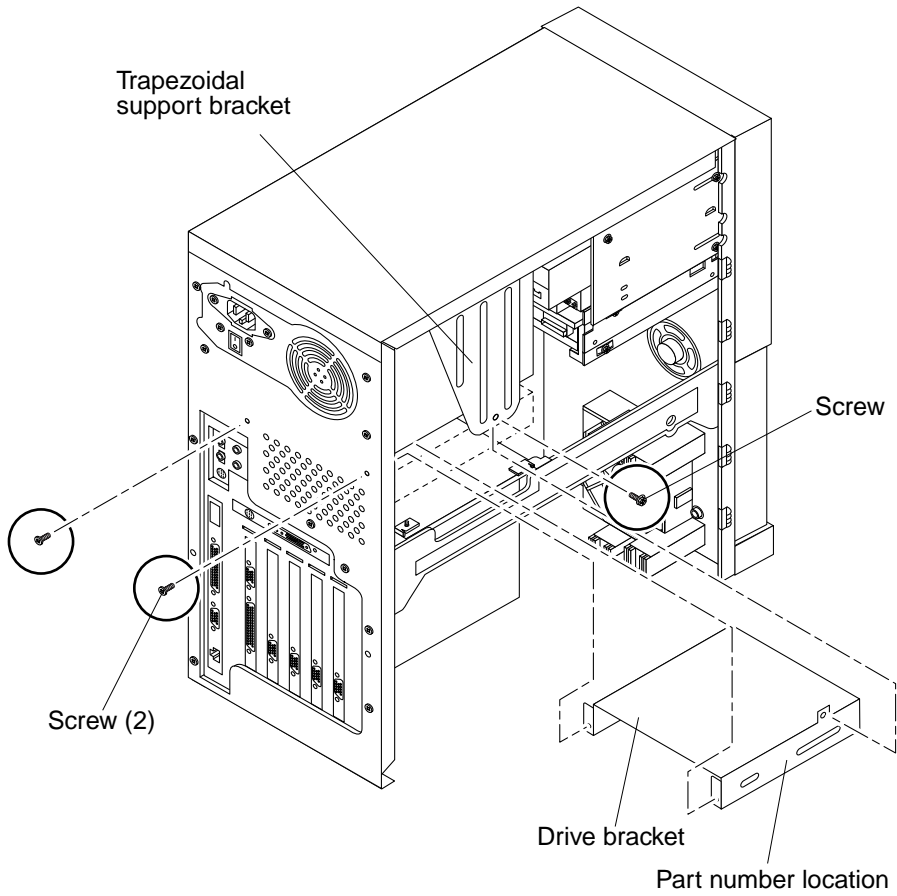

FIGURE 6-9 Removing and Replacing the Rear Hard Drive Bracket
4. **Remove the rear hard drive bracket as follows (FIGURE 6-9):**
1. **Replace the rear hard drive bracket as follows (FIGURE 6-9):**